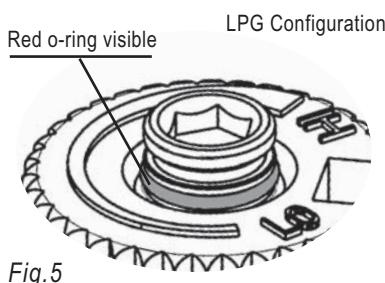

Fig.5
- 15)** Verify that if the conversion is from NG to LPG, the screw must be reassembled with the red o-ring visible (Fig. 5).